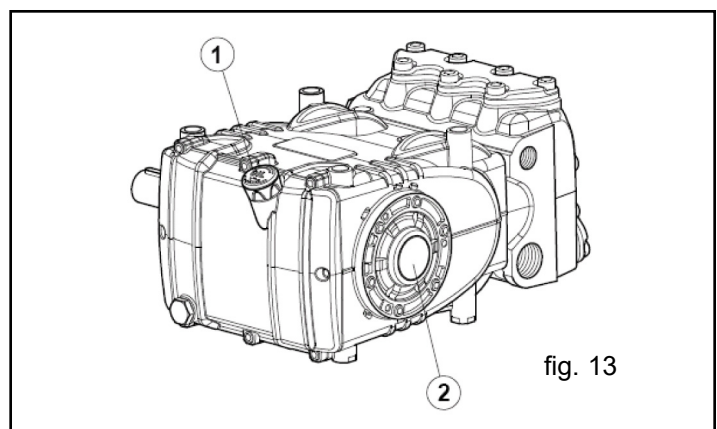

fig. 13
5. The oil level in the pump must be verified using the correct dipsticks (position 1, fig 13), and especially using the oil sight glass (position 2, fig. 13).